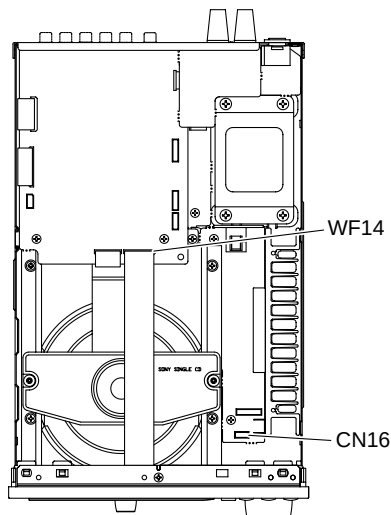

Fig. 2
- a. Disconnect the connectors (WF14 and CN16). (Fig. 2)